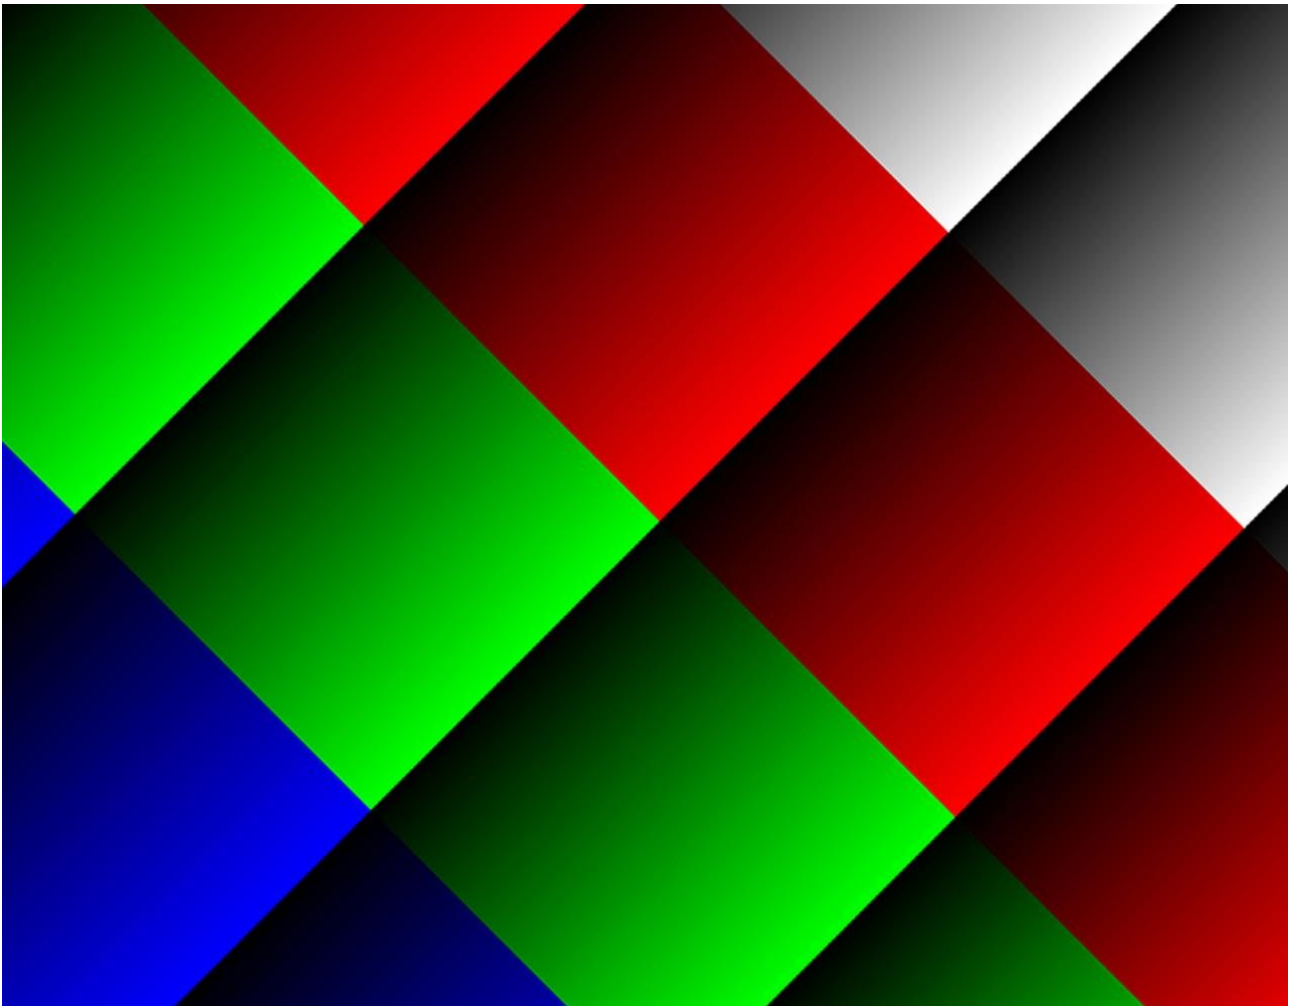

Figure 20 : Diagonal color pattern
6. Diagonal color ramp – diagonal gradient of several color stripes as shown in Figure 20.